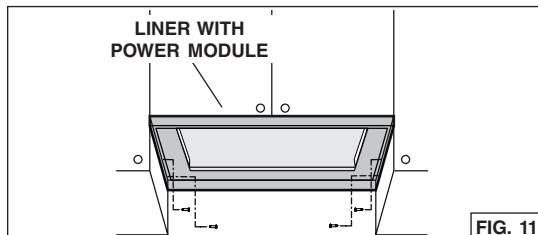

FIG. 11
8. Secure the liner (Fig. 11) using 4 mounting screws (included with the liner).